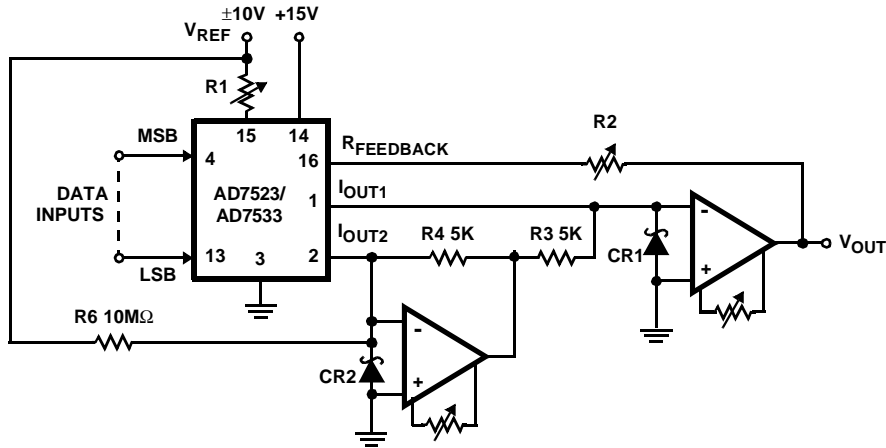

FIGURE 3. BIPOLAR OPERATION (4-QUADRANT MULTIPLICATION)
The circuit configuration for operating the AD7523 in the bipolar mode is given in Figure 3. Using offset binary digital input codes and positive and negative reference voltage values, Four-Quadrant multiplication can be realized. The "Digital Input Code/Analog Output Value" table for bipolar mode is given in Table 3.)
A "Logic 1" input at any digital input forces the corresponding ladder switch to steer the bit current to I_{OUT1} bus. A "Logic 0" input forces the bit current to I_{OUT2} bus. For any code the I_{OUT1} and I_{OUT2} bus currents are complements of one another. The current amplifier at I_{OUT2} changes the polarity of I_{OUT2} current and the transconductance amplifier at I_{OUT} output sums the two currents. This configuration doubles the output range. The difference current resulting at zero offset binary code, (MSB = "Logic 1", all other bits = "Logic 0"), is corrected by using an external resistor, ($10M\Omega$), from V_{REF} to I_{OUT2} (Figure 3).
The circuit configuration for operating the AD7533 in the bipolar mode is given in Figure 3. Using offset binary digital input codes and positive and negative reference voltage values, 4-Quadrant multiplication can be realized. The "Digital Input Code/Analog Output Value" table for bipolar mode is given in Table 4.
14. V_{OUT} as shown in Figure 3.
15. Nominal Full Scale for the circuit of Figure 3 is given by:
16. Nominal LSB magnitude for the circuit of Figure 3 is given by: